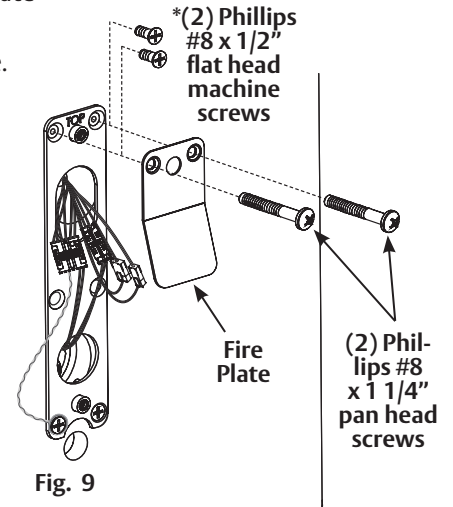

Fig. 9
- Install the fire plate to the mounting plate (Fig 9), being careful not to trap or pinch wires between fire plate and mounting plate. Fasten plate with two (2) #8 x 1 1/4" Phillips pan head self-drilling screws.
- Ensure wires from reader are properly routed under flap of fire plate. Complete securing mounting plate by fully tightening all four (4) mounting plate screws.